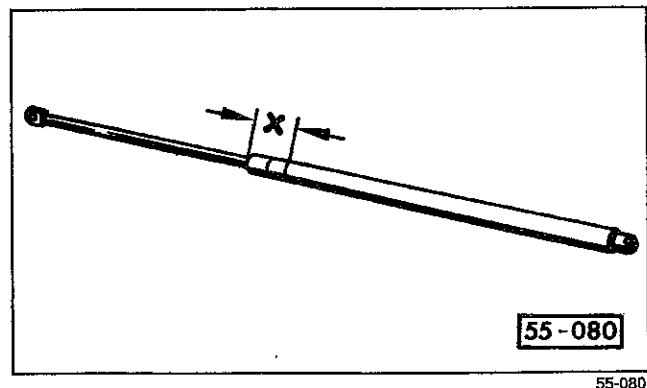

Fig. 4. Clamp strut in vise at first 2 inches (x) of strut housing.
1. Clamp strut in vise in area shown in Fig. 4.